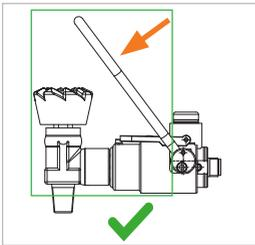
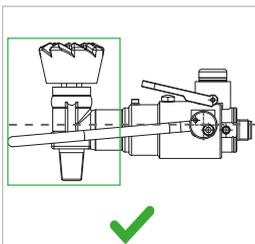

Figure 5
Figure 6
- ▶ Fold the actuation unit (Pos. 1) downwards (Figure 5). It must be possible to lower the bail/lever easily and without any force. The actuation unit (Pos.1) is correctly positioned when the locking device (Pos.8) engages with an audible click. The position of the locking device (Pos. 8) changes from horizontal to a diagonally upward pointing position. The thread segments clamp tight when connected to the thread of the cylinder valve. In its end position, the actuation unit (Pos. 1) must be below the horizontal of the connector (Figure 6).